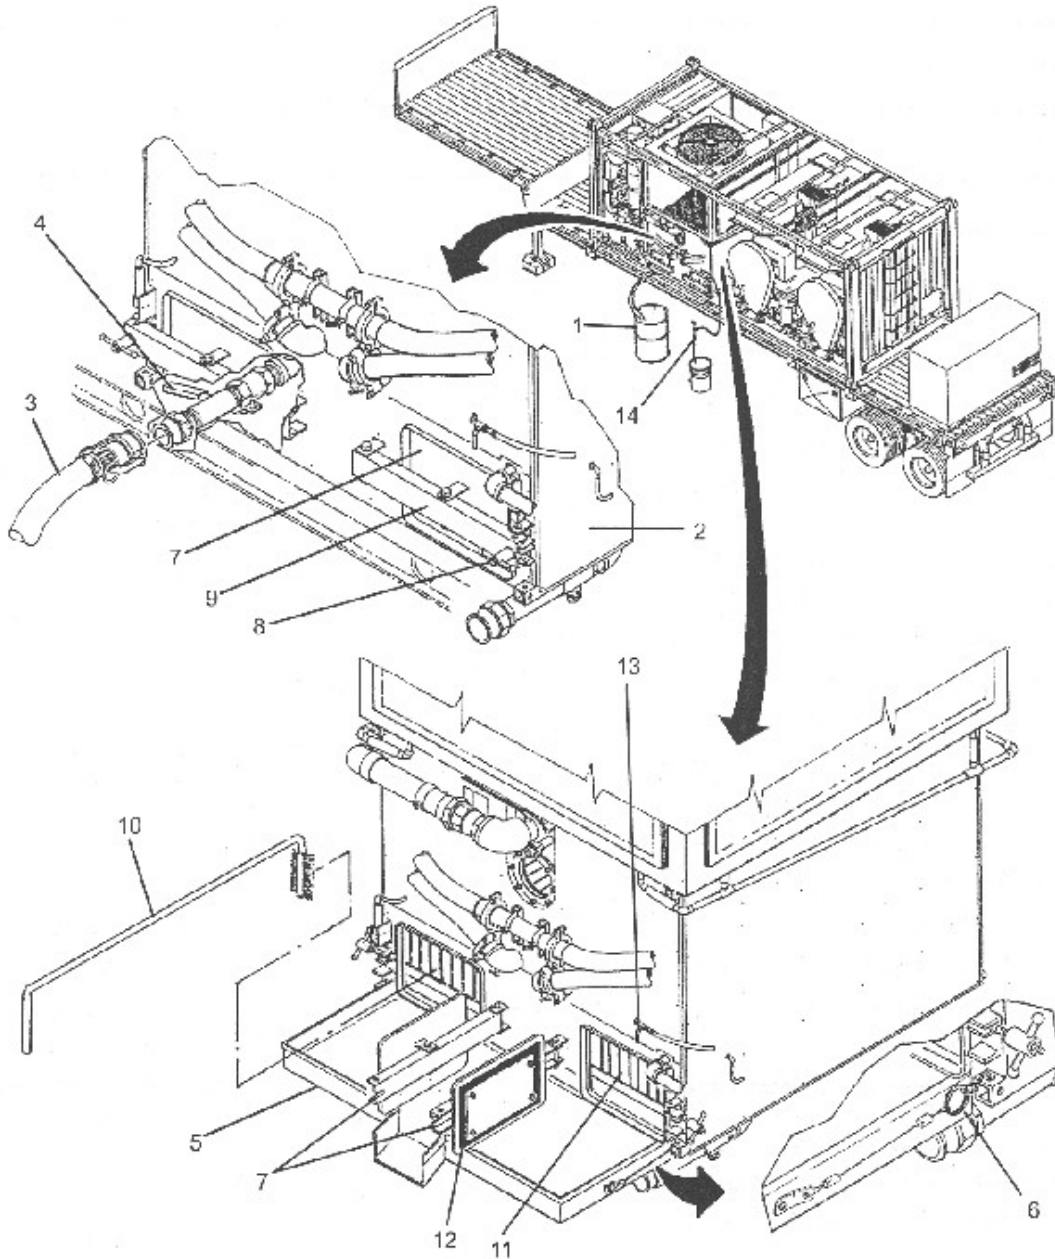

Figure 3-64
15. Close manual valve. (See Figure 3-64)